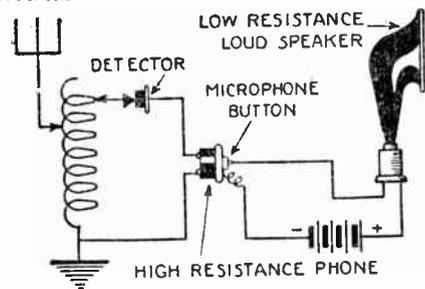
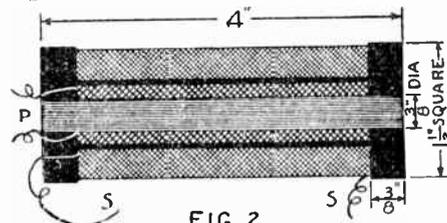
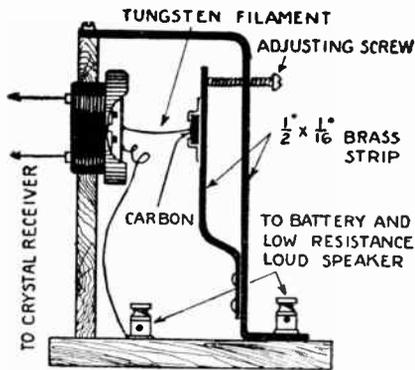

FIG. 1
FIG 2
FIG. 3
Perhaps the simplest form of relay is that shown at Fig. 1, comprising a microphone button attached to the diaphragm of a telephone receiver. The complete crystal receiver circuit is shown in this illustration. Although the scheme works with a fair degree of success it is very critical in adjustment and the adjustment is not permanent. With its use a low resistance loud speaker is required, one of about five to ten ohms resistance. Those who have the old style Magnavox, having a field electromagnet excited by a battery, can easily adapt it to this circuit by disconnecting the input transformer. The floating coil attached to the diaphragm of this loud speaker has about the correct resistance for this work. Otherwise it
ondary is required. A modulation transformer such as is used for radio telephone transmission work or a telephone induction coil will be suitable. A suitable transformer may be constructed as shown in Fig. 2. It consists of an iron wire core four inches long by three-eighths inches in diameter. The primary winding consists of four layers of No. 26 D. C. C. wire wound directly on the core. Paper insulation is placed over the primary and the entire space between the two end blocks is filled with No. 32 enameled wire.
Going back to our microphone experiments, it was found that the scheme shown at Fig. 1 did not work very well unless the input currents were very strong. In fact a weak station will hardly be audible. The reason is that the button is comparatively heavy and does not follow audio vibrations of small amplitude. In order to amplify weak currents, a very light contact is required, and the contact between a portion of a tungsten lamp filament and a polished carbon plate is excellent. This is clearly shown at Fig. 3. The tungsten filament is attached directly to the diaphragm, and it is not heavy enough to interfere with the vibrations. To attach the wire, it is best to solder one end of the diaphragm. A piece of a polished carbon diaphragm is used for the other electrode. The pressure between this and the wire is made adjustable by the adjustment screw, as shown.
This method gives very good results. The volume and quality of the reproduced music depends largely upon the pressure and the current flowing through the contact. One dry cell is sufficient for the operation, whereas in Fig. 1 three dry cells are required.
Fig. 2 shows a circuit in which the rectifying action of the tube has no effect on the action of the audio transformer. This is accomplished by connecting two fixed condensers in the grid lead (C₁) and (C₂). Condenser (C₂) is of comparatively large capacity, .002 mfd., for it must pass both radio and audio frequency currents. Condenser (C₁) is of small capacity, .00025 mfd., as it should by-pass the radio frequency currents only. The grid leak (R) is required. It should be of one-half to one megohm. With this circuit, the negative charges that accumulate on the grid must leak off through the grid leak (R); they cannot leak off through the secondary of the transformer on account of the blocking condenser (C₂), and therefore cannot balance out the current in the primary of the transformer. Experimenters should obtain very good results from this circuit. The remainder of the circuit needs no special comment as it is standard; all of the circuits shown in this issue and also last month's issue should be tried out with the double grid condenser.
A simplified reflex circuit with the added improvement of the extra grid condenser is shown in Fig. 3. All this circuit requires is a standard three circuit tuner, such as the type shown in the photographic views in last month's EXPERIMENTER. A crystal detector and audio transformer are connected across the tickler winding of the coil. The secondary is connected across the small grid condenser as shown. Note that the condensers have been reversed from the locations shown in Fig. 2, merely to show that there are two ways of obtaining the same result.
The experimenter may try various sizes of fixed condensers across the secondary of the audio transformer and he may also try two grid condensers as shown in Fig. 2. When the proper combination has been found a very good one dial single tube receiving set can be made.